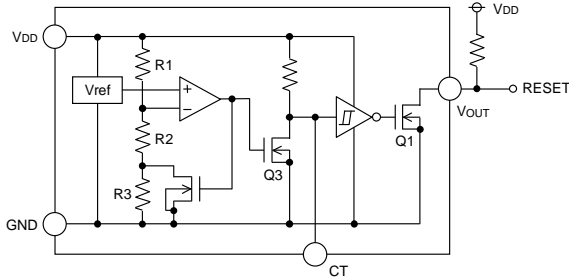
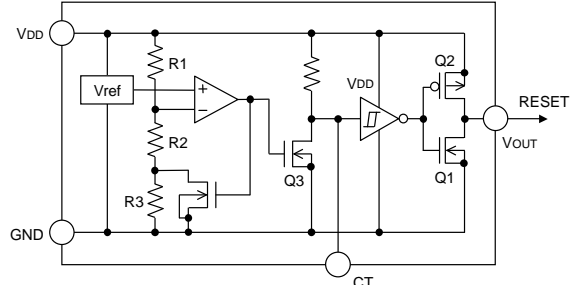

Fig.15 (BU42xx series Internal Block Diagram)
Fig.16 (BU43xx type Internal Block Diagram)
For both the open drain type (Fig.15) and the CMOS output type (Fig.16), the detection and release voltages are used as threshold voltages. When the voltage applied to the VDD pins reaches the applicable threshold voltage, the Vout terminal voltage switches from either “High” to “Low” or from “Low” to “High”. BU42xx and BU43xx series have delay time function which set tPLH (Output “Low”→”High”) using an external capacitor (CT). Because the BU42xx series uses an open drain output type, it is necessary to connect a pull-up resistor to VDD or another power supply if needed [The output “High” voltage (VOUT) in this case becomes VDD or the voltage of the other power supply].
Example: The following shows the relationship between the input voltage VDD, the CT Terminal Voltage VCT and the output voltage VOUT when the input power supply voltage VDD is made to sweep up and sweep down (The circuits are shown in Fig.15 and 16).